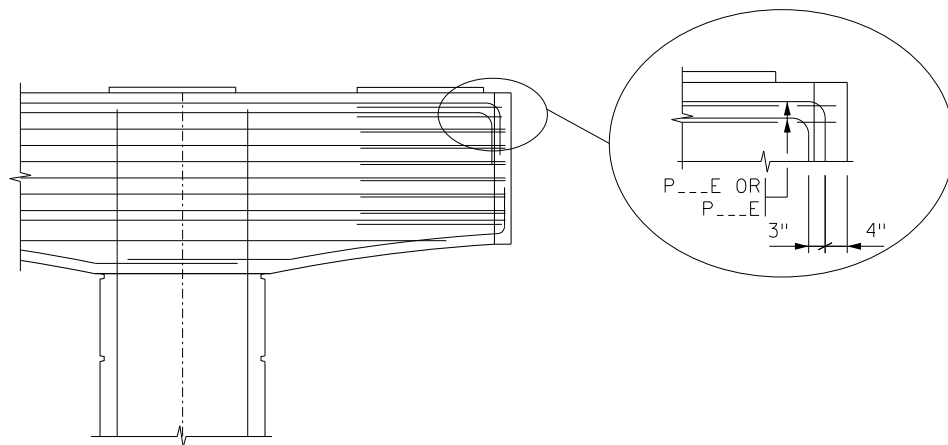

Figure 8
4. When detailing ends of pier caps, consider actual bar bend radii and locations to avoid conflicts. Figure 8 shows an example of good detailing of bent bars at the end of the pier cap.